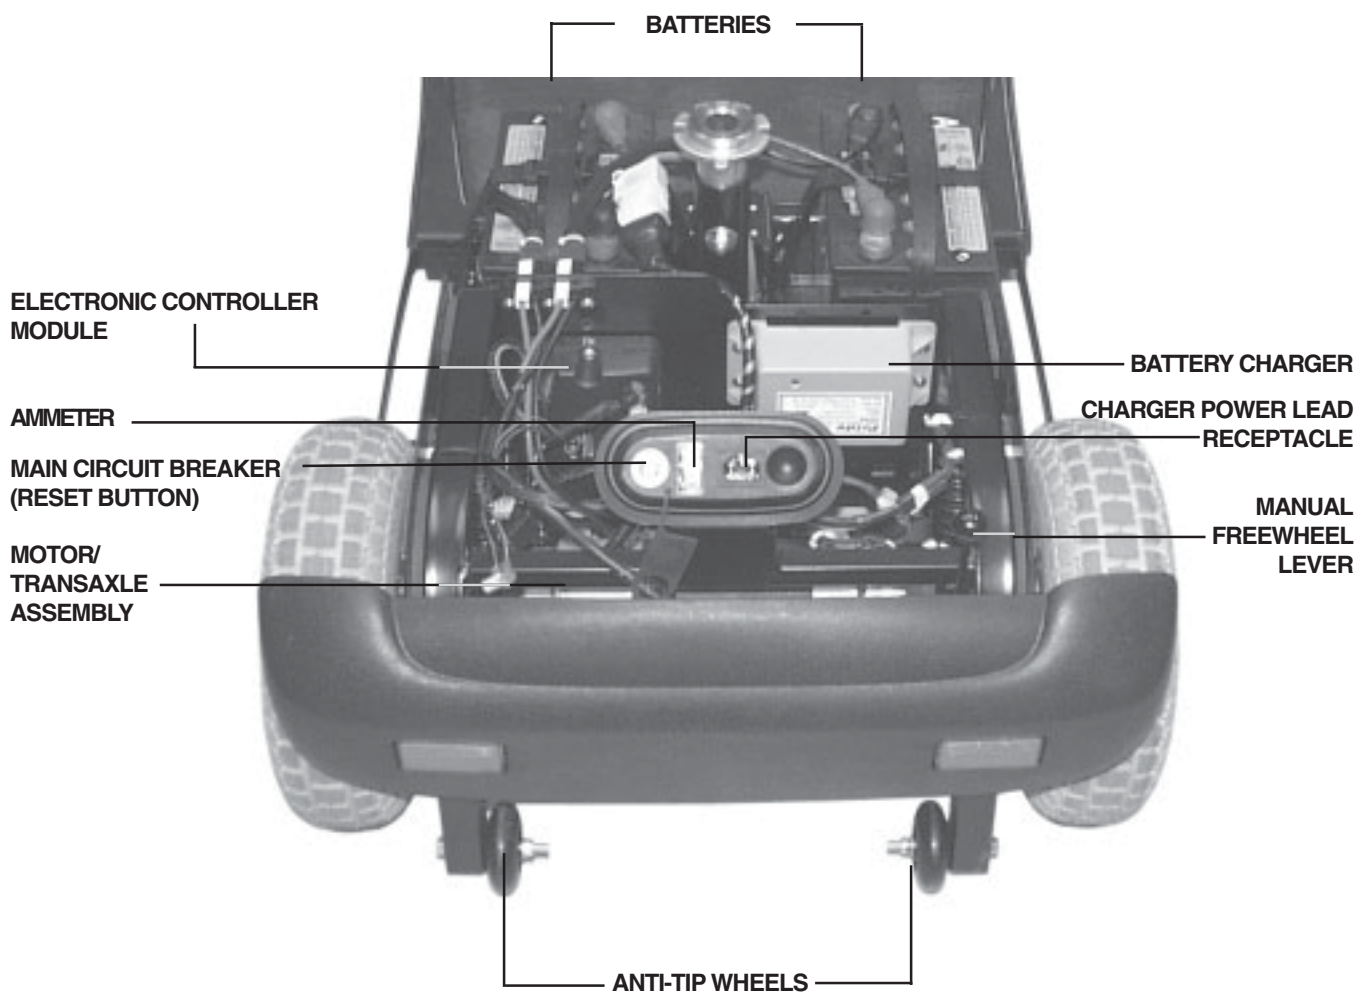

Figure 9. Rear Section
The batteries, electronic controller module, motor/transaxle assembly, manual freewheel lever, the anti-tip wheels, the main circuit breaker, and the fuses (not shown) are located on the rear section of your scooter. See figure 9.
The anti-tip wheels are an integral and important safety feature designed to help prevent your scooter from tipping rearwards on an incline. They are bolted to the frame at the rearmost part of your scooter. See figure 9.
- The main circuit breaker reset button is located next to the ammeter. See figure 9.